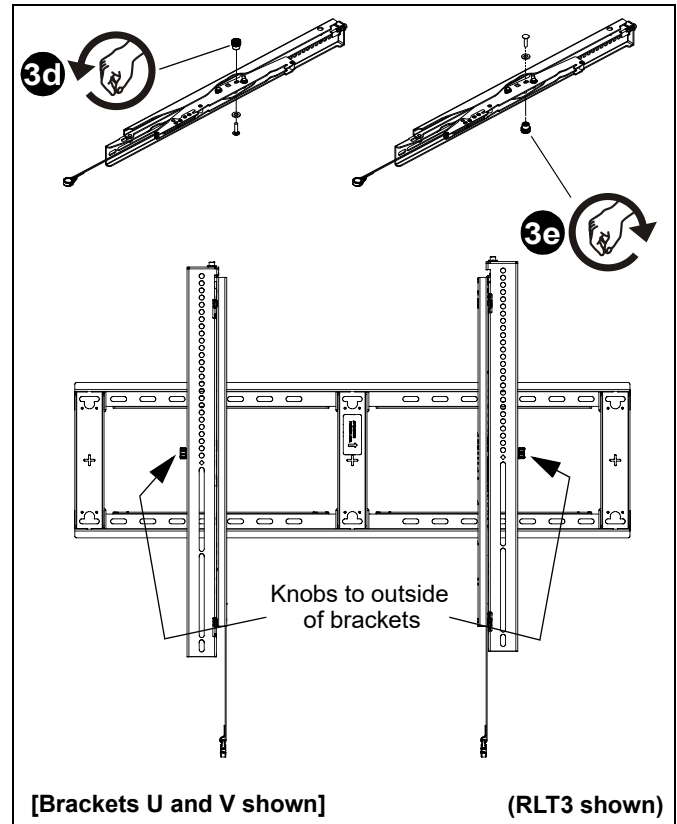

Figure 12
3. If necessary, the tilt interface bracket knobs may be switched to allow the interface brackets (U and V) to be reversed. (See Figure 12)